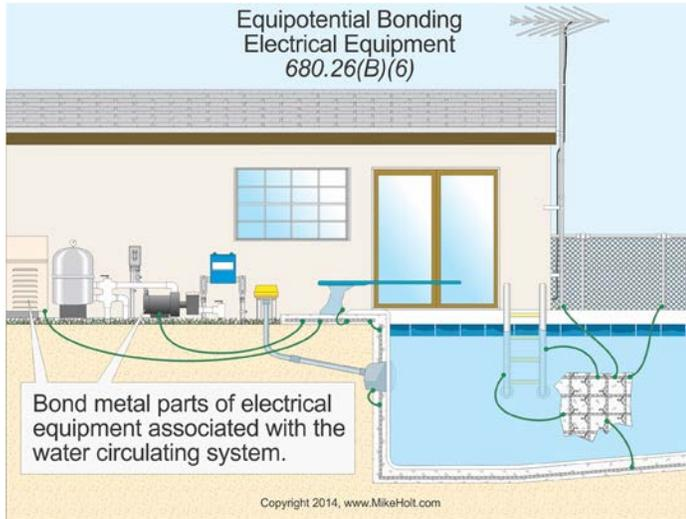

Figure 680-45
(6) Electrical Equipment. Metal parts of electrical equipment associated with the pool water circulating system, such as water heaters, pump motors, and metal parts of pool covers must be bonded to the equipotential grid. **Figure 680-45**